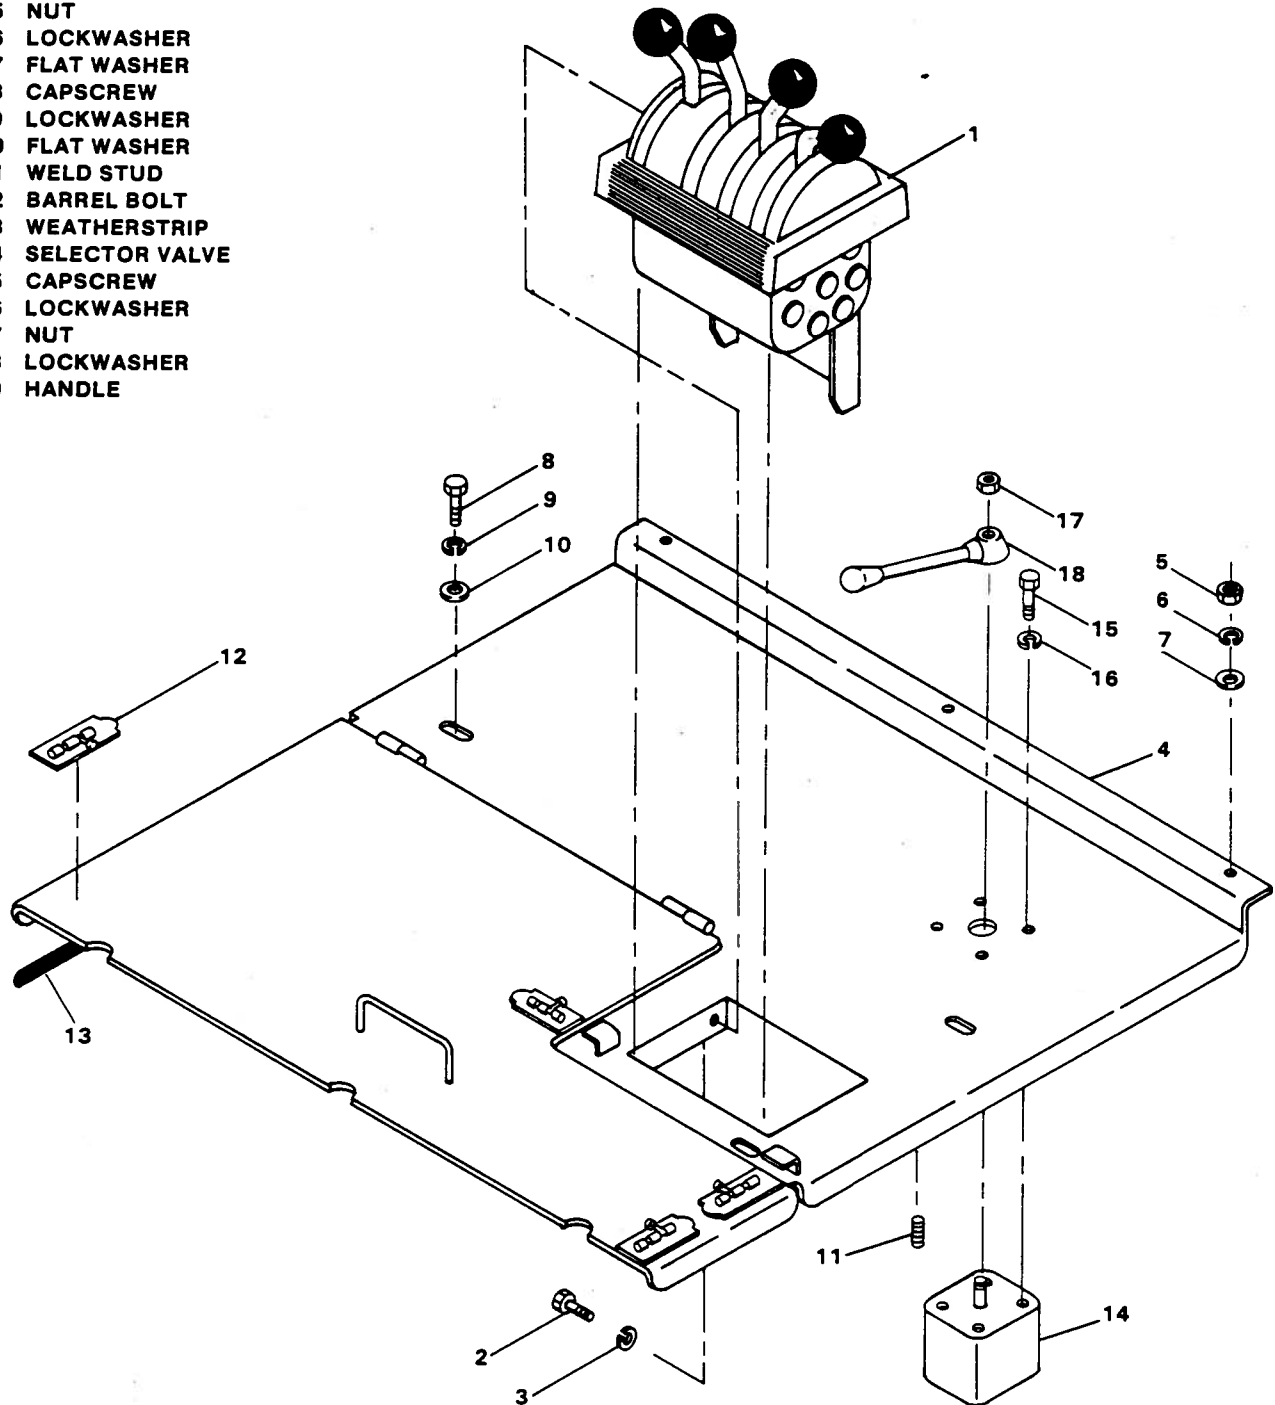

Figure 5-50. Transmission Shifter Installation
5-67. REMOVAL. (See figure 5-50.)
a. Open battery access cover and remove capscrews (2, figure 5-50) and lockwashers (3). Lift out transmission shifter assembly (1).